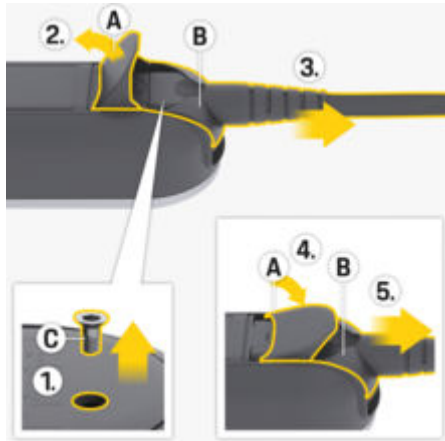

Fig. 13: Disconnecting the supply cable
1. Remove screw **C** (Fig. 13) using a suitable tool.
2. Fully open the cover **A** (Fig. 13).
3. Pull out the plug **B** (Fig. 13) until resistance is first felt.
4. Close the cover **A** (Fig. 13) to about 15 degrees (the cover can be in contact with plug **B** (Fig. 13)).
5. Pull out the plug **B** (Fig. 13) fully.